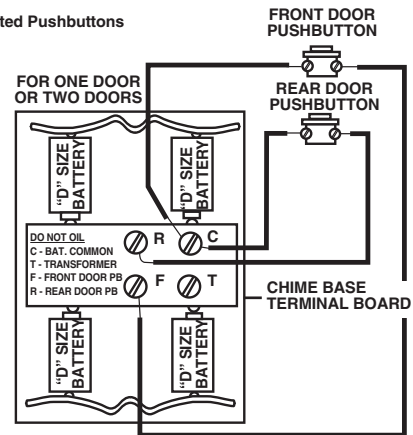

FIGURE 3
3. Run wires as shown in Figure 3 for installation using batteries.
3. **INSTALLATION USING BATTERIES.** Refer to Figure 3. Connect pushbutton wires to terminal screws marked Front, Common, and Rear.